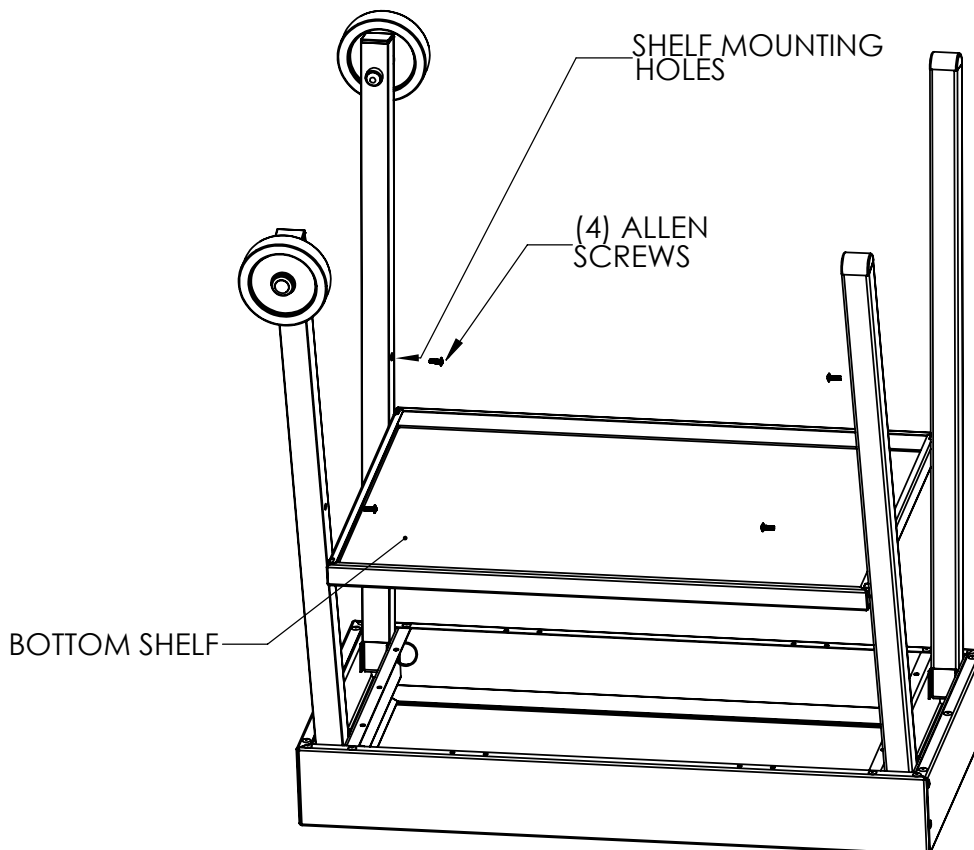

FIGURE 5 - LOWER SHELF ASSEMBLY
- a. Locate the Lower Shelf. Remove the (4) allen screws and allen wrench from the hardware kit.
- c. Apply a drop or two of thread-lock compound to the threads of each of the (4) mounting screws, and screw them into the threaded holes located within the inner surface of each leg, approximately half-way up. Refer to figure 5. Turn the screws in until they are 1/8" from the leg surface, using the allen wrench as a gage between the screw head and the leg. Keep the (1) extra screw as a spare.